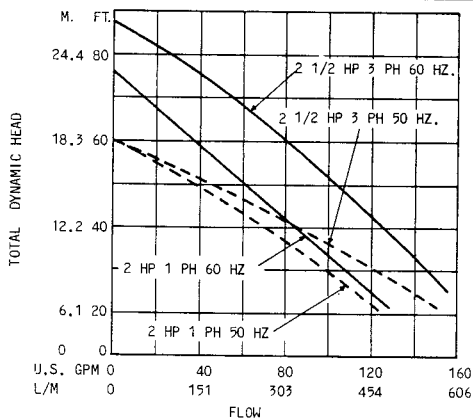

Fig. 1—Typical Characteristics of Prosser 2 and 2-1/2 HP Submersible Pumps
1.05 Submersible pumps most generally used for dewatering manholes operate from electric power sources. Some hydraulically driven pumps are used, but they are less common. The most commonly used electric pumps for manhole dewatering are those that are within the 1/2 HP 60 Hz to 1 HP 60 Hz range because the capacities of these pumps are sufficient for most applications, and suitable power is usually available. Where greater pump capacities are required, it is advantageous to use 230 volt single-phase pumps or 230 volt 3-phase pumps. Typical characteristics are shown in Fig. 1.